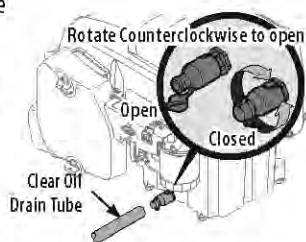

Figure 35
4. Open the protective cap on the end of the oil drain valve to expose the drain port. See Figure 35.